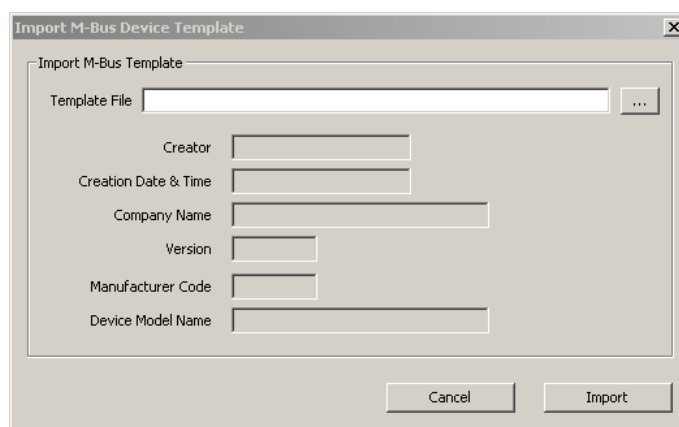

Figure 129: Import M-Bus Device dialog.
3. Click on the **Create From Template** button. This opens the **Import M-Bus Device Template** dialog shown in Figure 129.